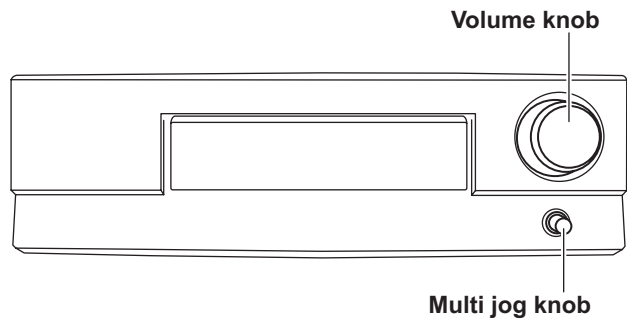

Fig.14
3.2.1 Removing the micon board (See Fig. 14 and 16)
- (1) Remove the two screws **BB** attaching the power switch board.
3.2.3 Removing the AUX board (See Fig. 14 and 16)